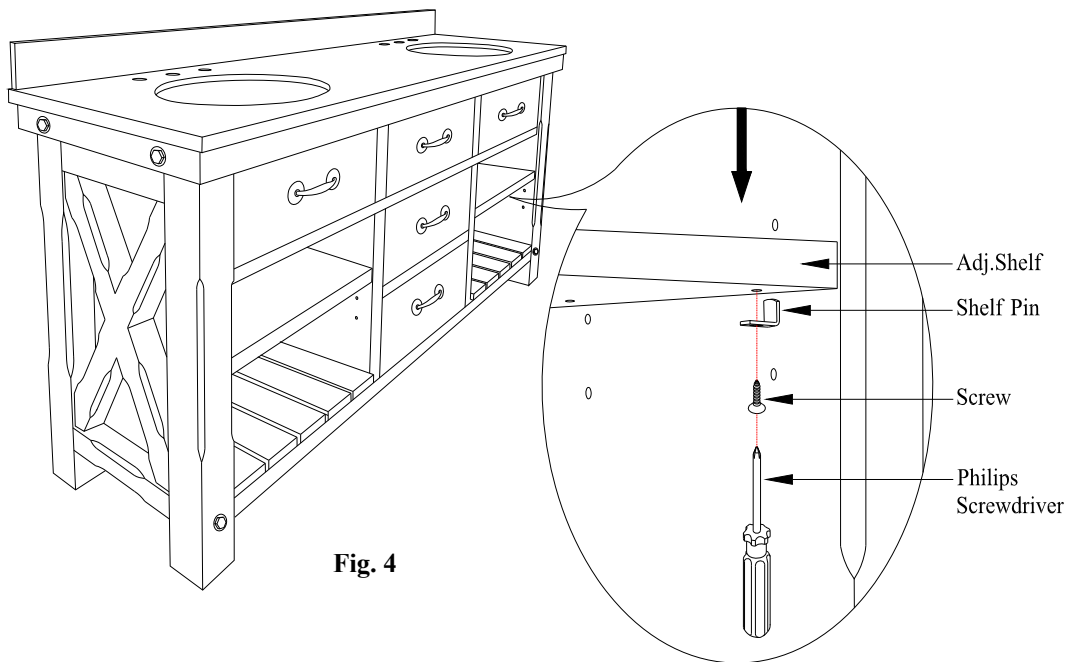

Fig. 4
4. The wooden adjustable shelf was attached to the shelf supports for shipping. To change the position of the shelf, first remove the screws from the shelf pins. Remove the shelf and relocate the shelf pins to another set of pre-bored holes. Re-install the shelf. Fig.4